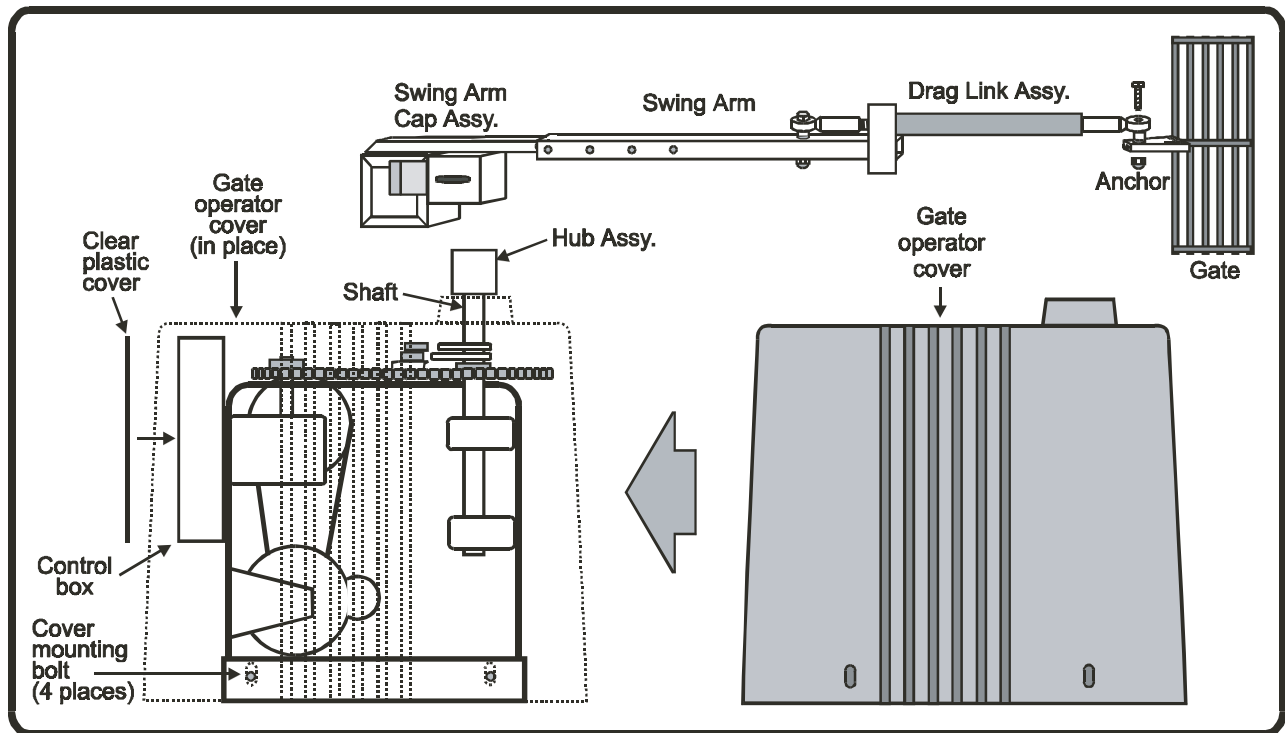

Figure 20. Gate Operator Disassembly and Assembly
- Refer to Figure 20, above, to perform the following instructions.
For control and indicator locations, refer to Figure 20. For detailed explanations of the Gate Operator's various controls, indicators, inputs, adjustments and connectors, refer to the following pages.